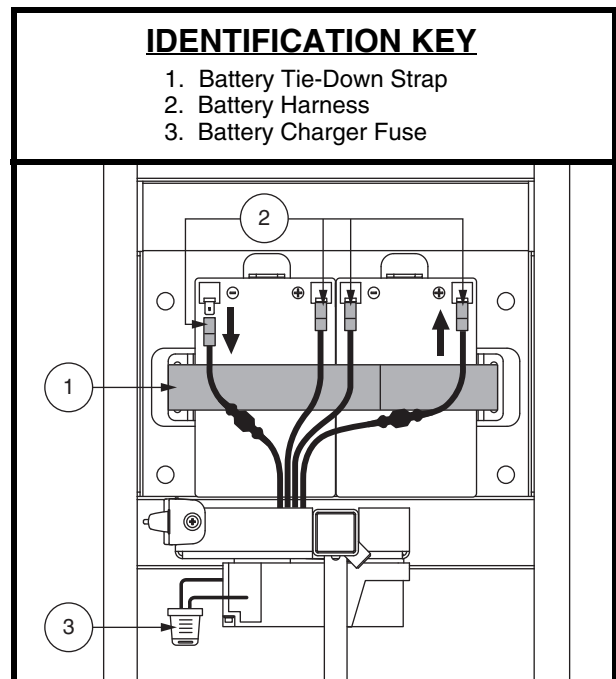

Figure 10. Battery Connections
4. Disconnect the battery harnesses and tie-down strap then remove the batteries from the Travel Scooter. See figure 10.